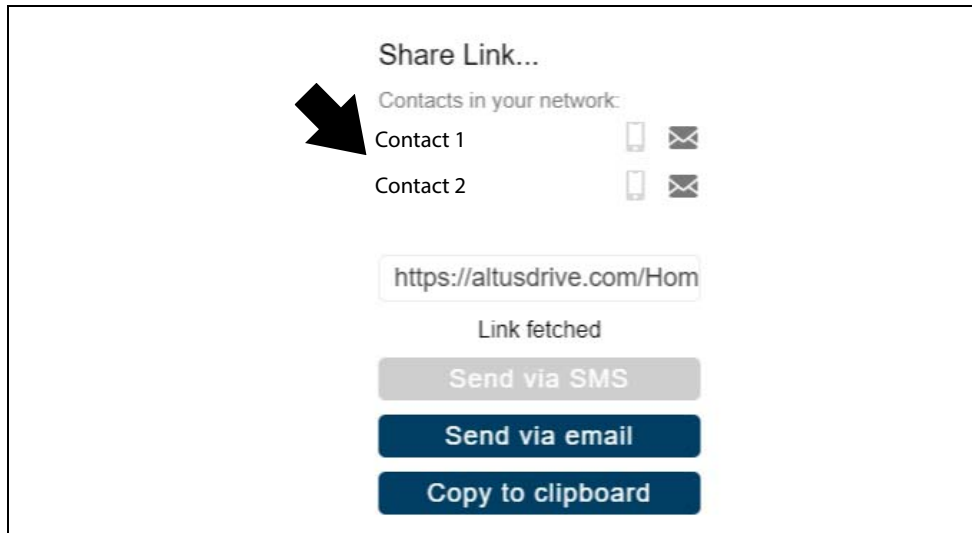

Figure 17-19
2. Select an option (Figure 17-19) from the pop-up window.